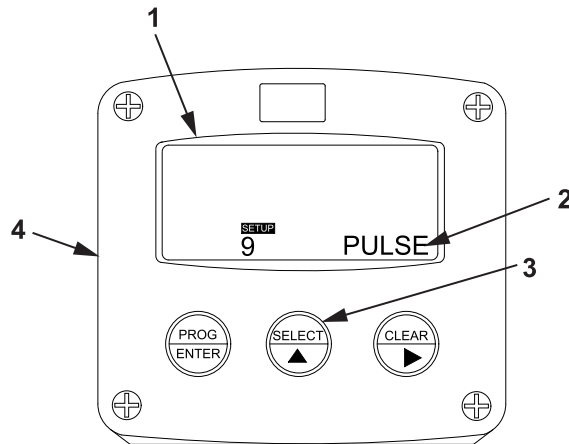

Figure 43. PULSE Display.
- f. Verify that PULSE (Figure 43, Item 2) appears on the display screen (Figure 43, Item 1).
- g. Press the CLEAR key (Figure 43, Item 3) on the tank volume meter monitor (Figure 43, Item 4) three times.